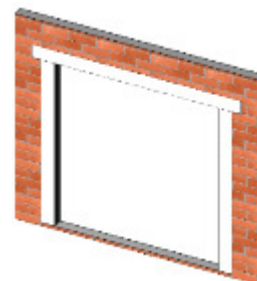

Figure 21:
3. Finally, at the head, embed the flashing into the sealant on the mounting flange and fasten into place. The flashing paper should be cut sufficiently long enough to extend past the flashing paper at each jamb by at least 3" (Figure 21).